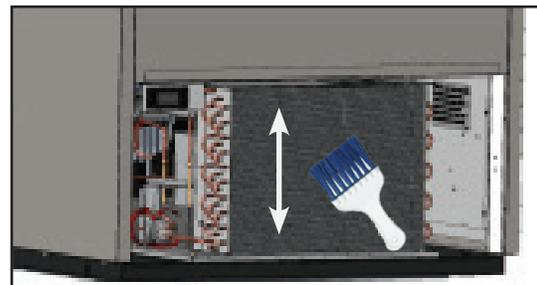

Fig. 3. Clean the condensing coil.
4. Carefully clean off accumulated dirt from the front fins of the condensing coil with a stiff bristle brush. See fig. 3.